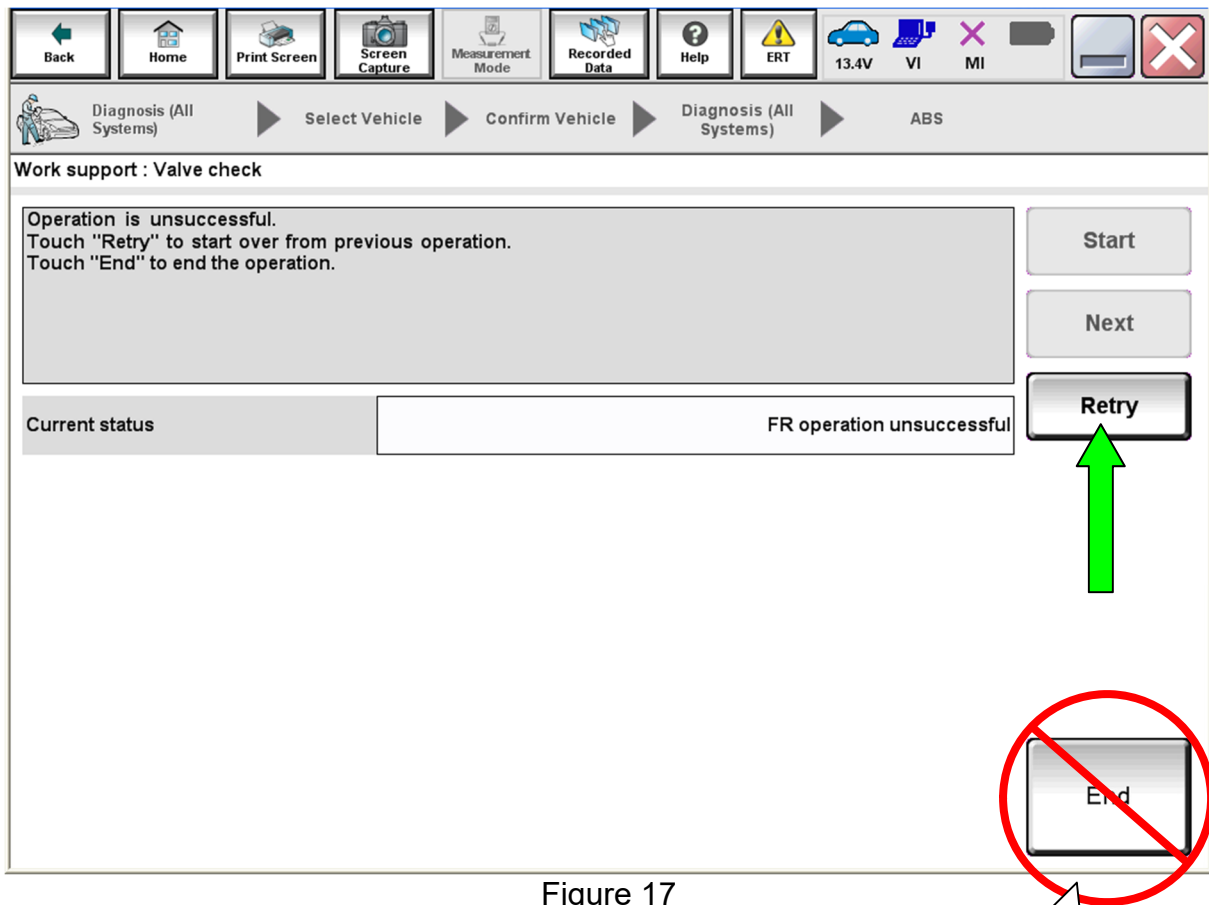

Figure 17
- If the pressure is outside this range, an error will occur as shown in Figure 17.